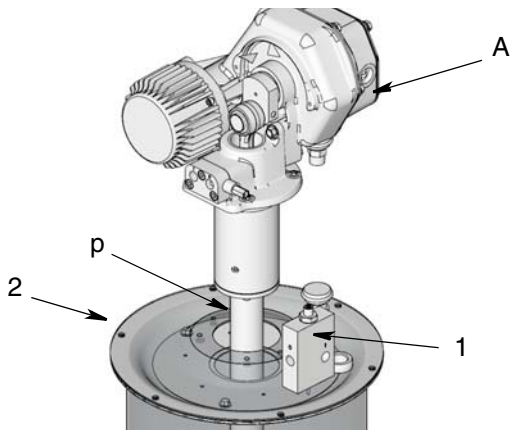

FIG. 10
8. Install pump down-tube (p) through opening in the center of the cover (e) and hole in the center of the diaphragm (2) as shown in FIG. 10.